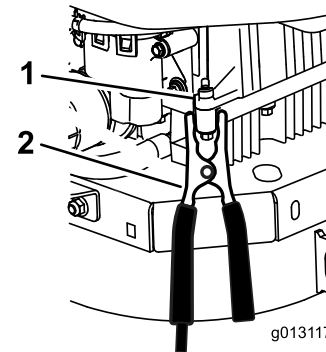

Figure 71
6. Make the final connection on the engine block of the stalled machine (not to the negative battery post), away from the battery, and stand back (Figure 71).